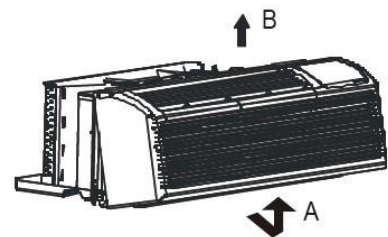

Fig.4
- Remove the front panel (see Fig. 4) by pulling out the bottom to release the tabs (A). Then lift up (B).